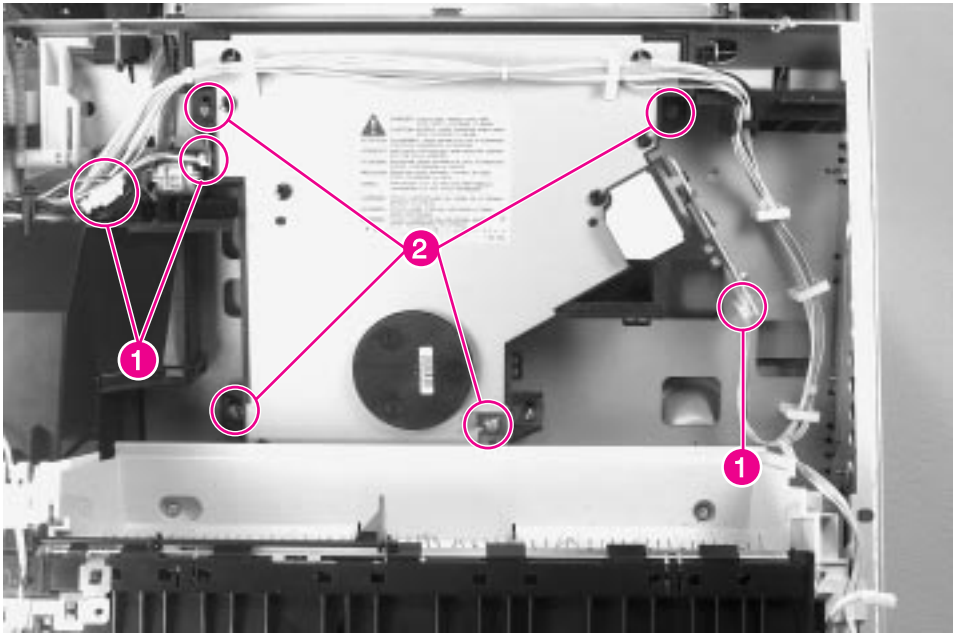

Figure 6-27 Laser/Scanner Assembly
- 3 Unplug three cable connectors (figure 6-27, callout 1).
- 5 Remove 4 screws (figure 6-27, callout 2).